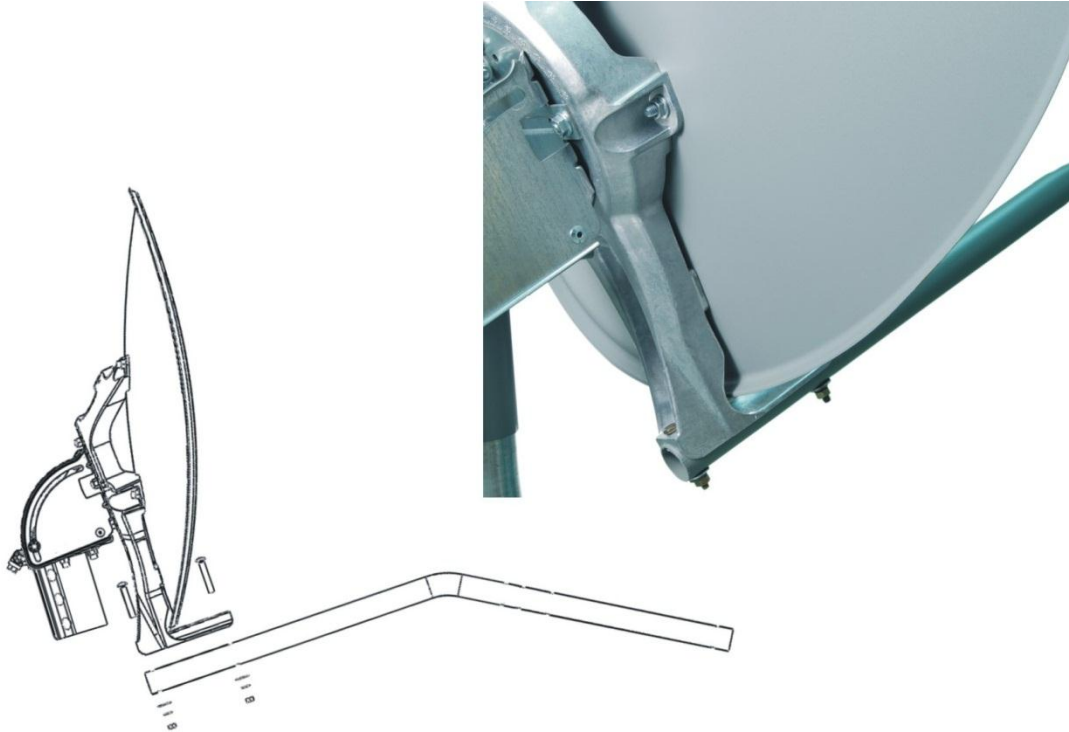

Figure 12: Attaching the feed support arm to the tailpiece
1. Insert the feed support arm into the housing at the bottom of the reflector bracket, as shown in Figure 12.